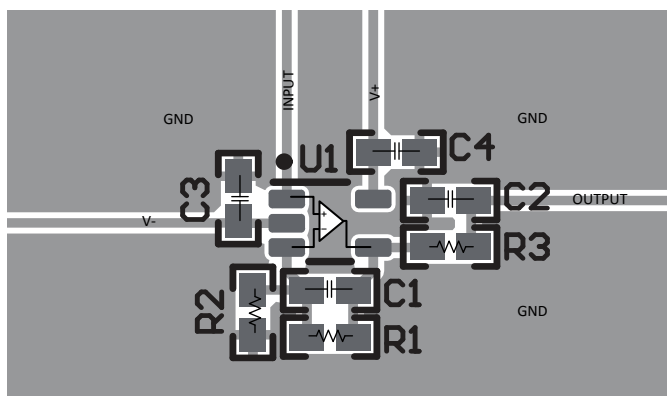

图 10-2. Operational Amplifier Board Layout for Noninverting Configuration - SC70 (DCK) Package
- Place the external components as close to the device as possible. As illustrated in Figure 10-2, keeping RF and RG close to the inverting input minimizes parasitic capacitance.